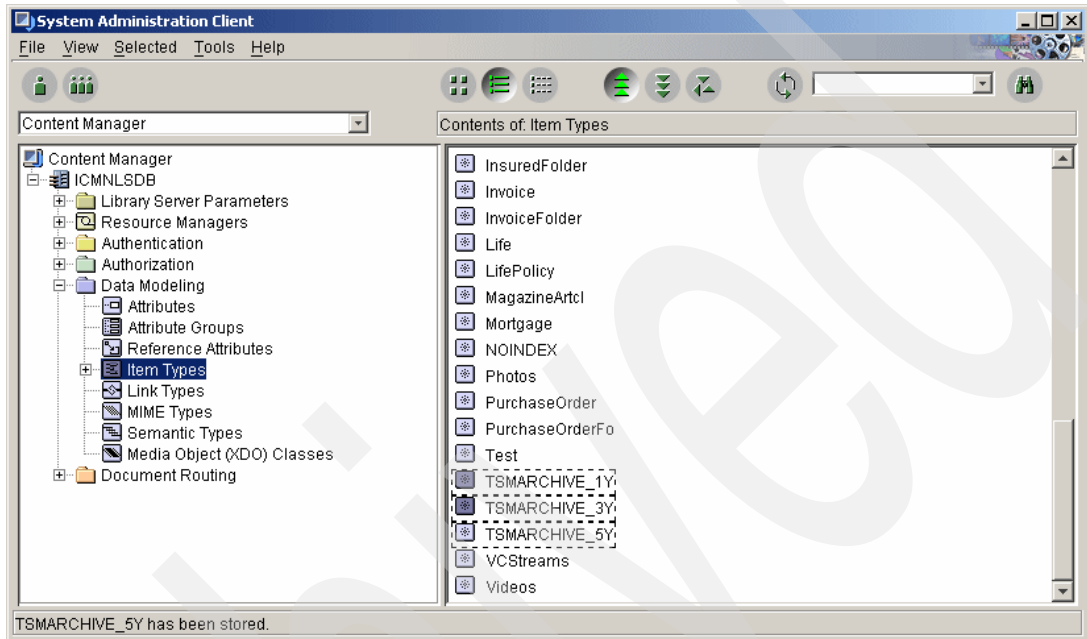

Figure 8-23 Data Modeling: Item Types
- c. Repeat the procedure described before to create two more item types (TSMARCHIVE\_3Y, TSMARCHIVE\_5Y) with the appropriate settings. The library server now contains three item types created for archive purposes, as shown in Figure 8-23. The three item types are associated with the DR550 SSAM Server as a storage unit, and they provide archive retentions of one year, three years, and five years.